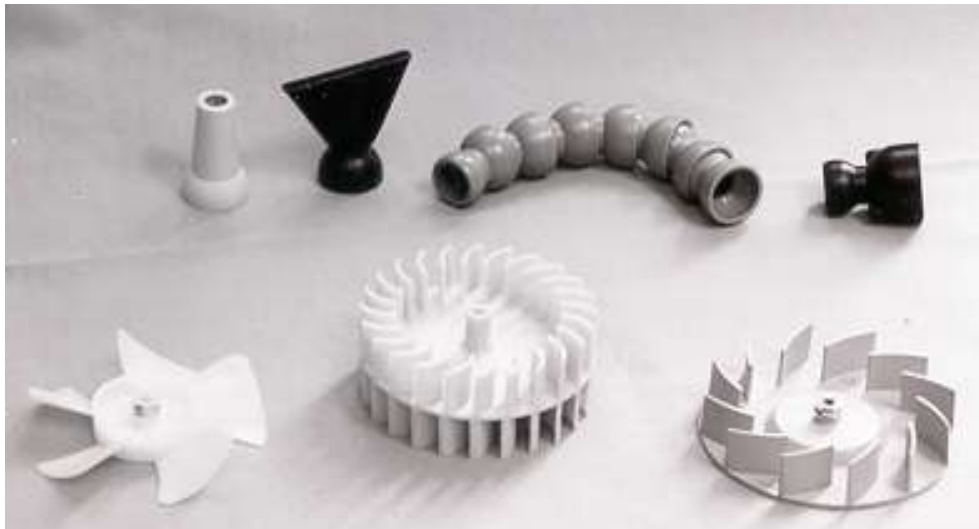

Figure 28. Turbine kit containing 3 turbines, 2 nozzles, 1 hose coupling and 1 connector section
1. **The “Kit.”** Each team will receive a Turbine Kit. Any or all of the parts in this Kit may be used. (See *Figure 28* for supplied components.) At a minimum, one of the supplied turbine wheels must be used. You may use 2 or even all 3 turbine wheels if you want, but only these 3 and no others. No modifications can be made to any of the parts of the Kit (so we can re-use them in future years). Pick up your parts from Sylvana in RRB 101.